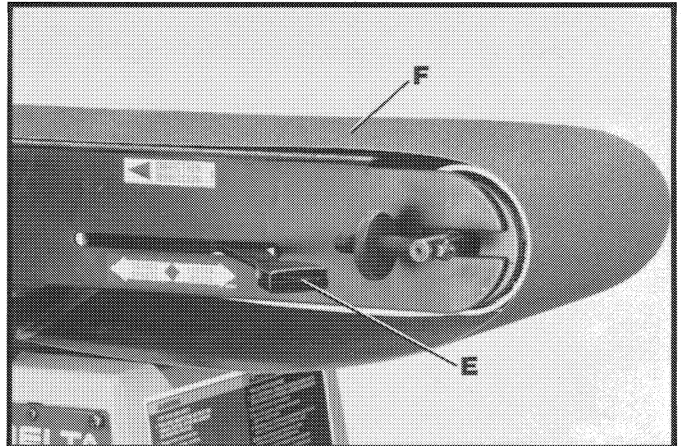

Fig. 42
4. Slide tension lever (E) Fig. 42, to the right to release tension on sanding belt (F). Remove sanding belt (F) from both sanding drums.
6. Re-apply belt tension by sliding tension lever (E) Fig. 42, to the left.